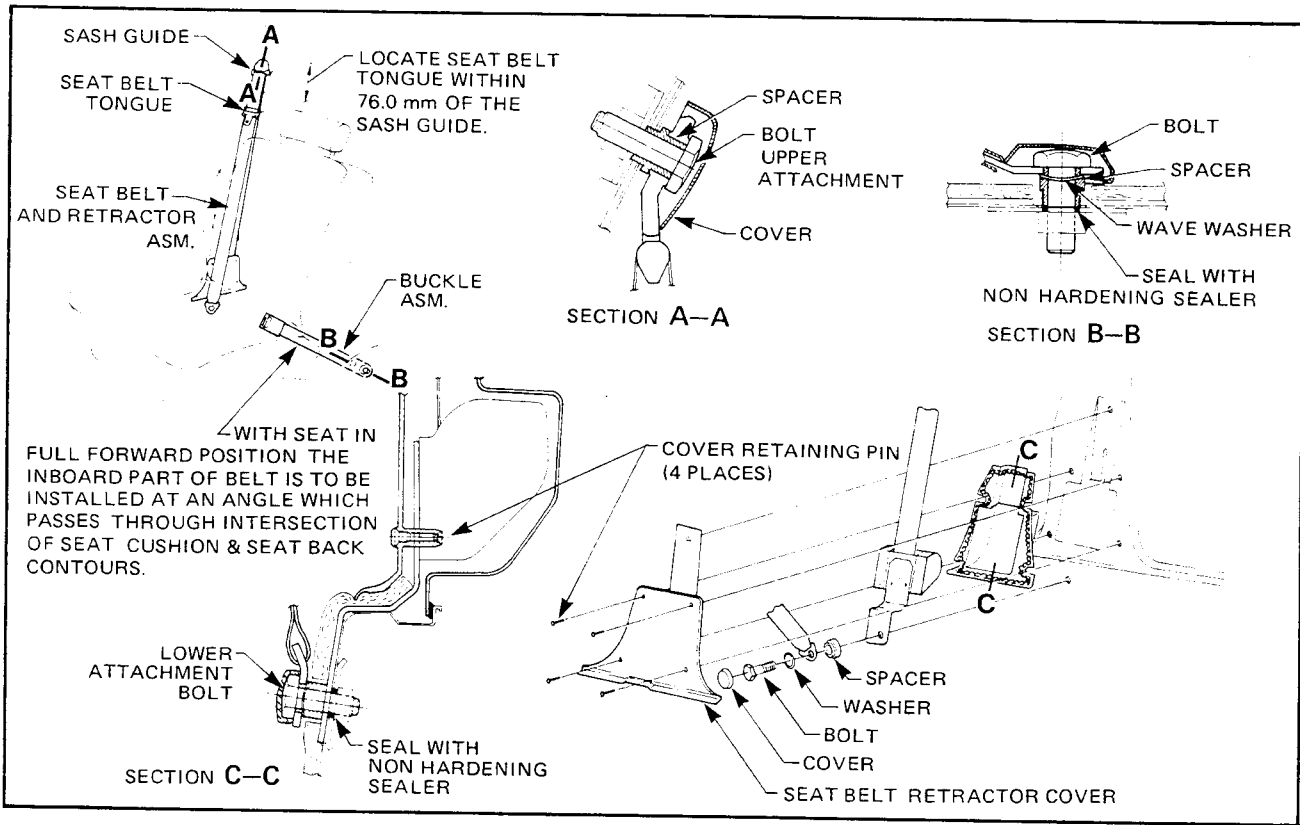

Figure 1A-44
5. Remove cover and bolt securing seat belt buckle assembly to transmission tunnel (refer Section B-B, Fig. 1A-44) then remove buckle assembly.